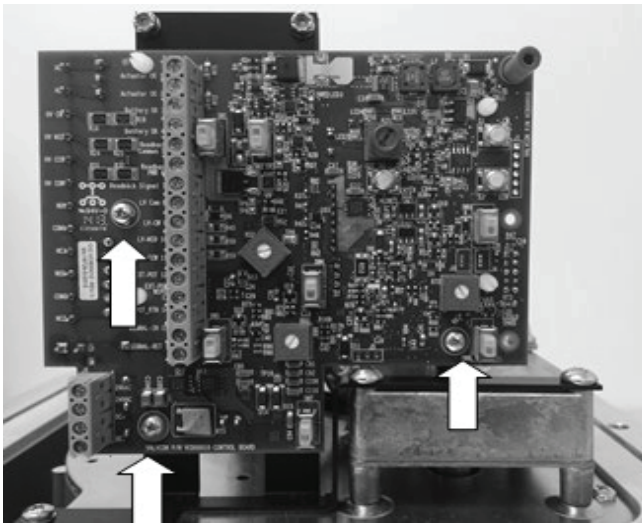

Figure 37.
- 4.38 Re-install the three screws that secure the board to the bracket, see Figure 37.